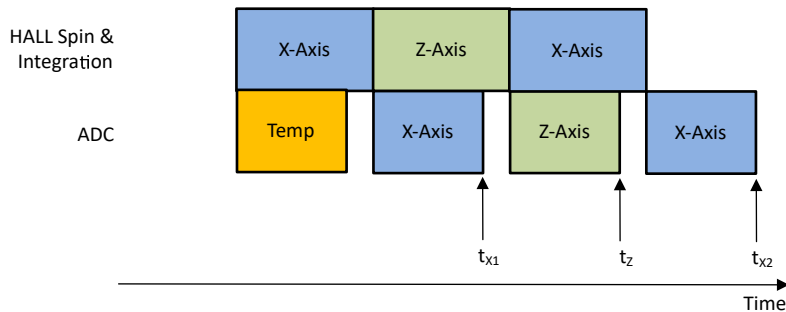

图 8-3. XZX Magnetic Field Conversion
In absolute angle measurement, application sensor data from multiple axes are required to calculate an accurate angle. The magnetic field data collected at different times through the same signal chain introduces error in angle calculation. The TMAG5173-Q1 offers pseudo-simultaneous sampling data collection modes to eliminate this error. 图 8-3 shows an example where MAG_CH_EN is set at 1011b to collect XZX data. 方程式 18 shows that the time stamps for the X and Z sensor data are the same.
- t_{X1} , t_Z , t_{X2} are time stamps for X, Z, X sensor data completion as defined in 图 8-3.